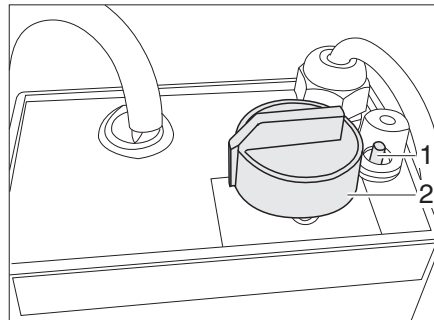

Fig. 116 Regulator for electrical floor warming unit
- Turn the control knob (Fig. 116,2) to the desired heating level.
- Turn the control knob (Fig. 116,2) to the setting "0".
If the regulator is overloaded, the overload protection is actuated. The pin (Fig. 116,1) will trip.
- Press in the pin (Fig. 116,1) at the overload protection when the regulator has cooled down.